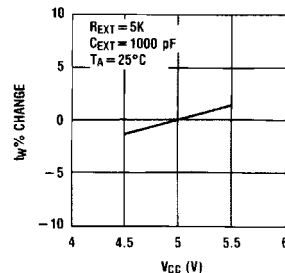
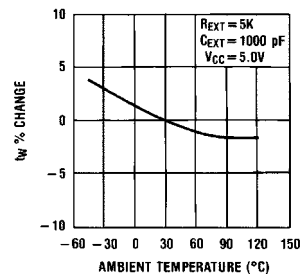

FIGURE 3.
FIGURE 4.
5. Output pulse width versus VCC and operation temperatures: Figure 3 depicts the relationship between pulse width variation versus VCC. Figure 4 depicts pulse width variation versus ambient temperature.